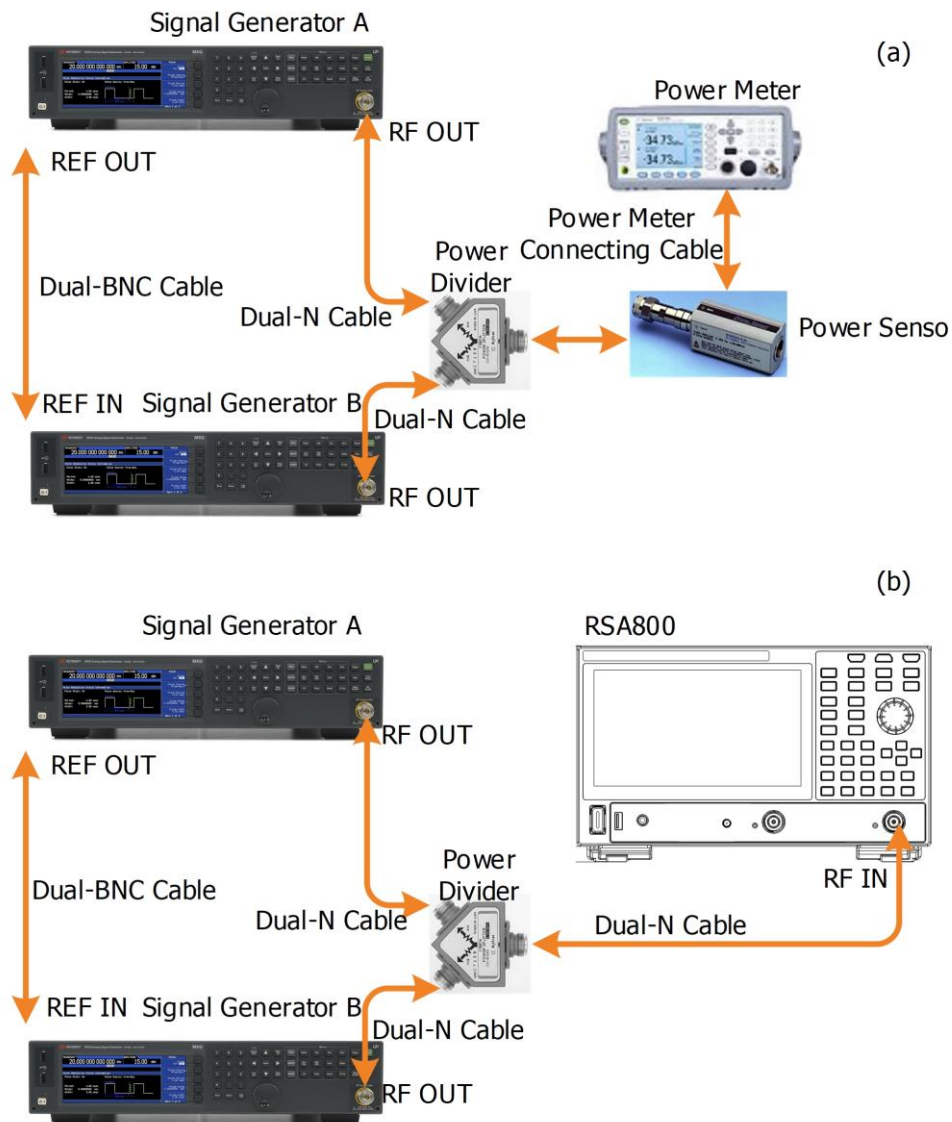

Figure 4.7 1 dB Gain Compression Test Connection Diagram
2. Synchronize the clock of the two signal generators. Connect the outputs of the two signal generators with the power divider. Then connect the power divider with the power sensor, as shown in Figure 4.7 (a).
6. Disconnect the power divider from the power sensor; connect the power divider with the spectrum analyzer, as shown in Figure 4.7 (b).